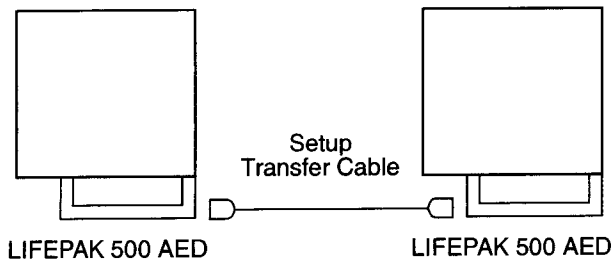

Figure 2-4 Setup transfer connections
- 2 Connect the equipment as shown in Figure 2-4: